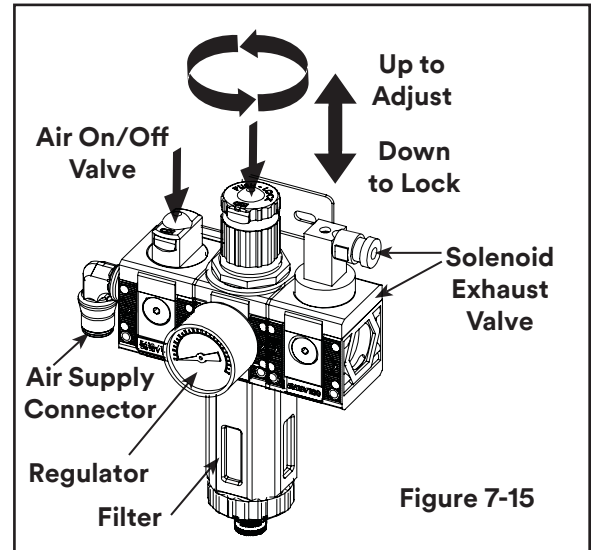

Figure 7-15
See Specifications for compressed air supply needs. As shown in **Figure 7-15**, an on/off valve, pressure regulator, and filter are provided to service the air supply.
2. Main Air “On/Off” Valve/Pressure Regulator/Filter/Exhaust Valve – Figure 7-15